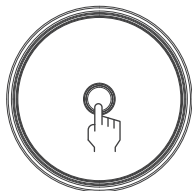

Figure 2
1. Open the door and locate the buttons on the inner side of the door. Briefly press the upper "Settings" key. A voice prompt will guide you: "Please enter fingerprint or password." As illustrated in Figure 2, place your fingerprint on the sensor within the fingerprint window. A voice prompt will instruct: "Please re-enter fingerprint." Repeat this process five times. Upon successful configuration, a voice prompt will affirm: "Fingerprint configuration successful." In case of unsuccessful configuration, you'll hear: "Fingerprint configuration failed."